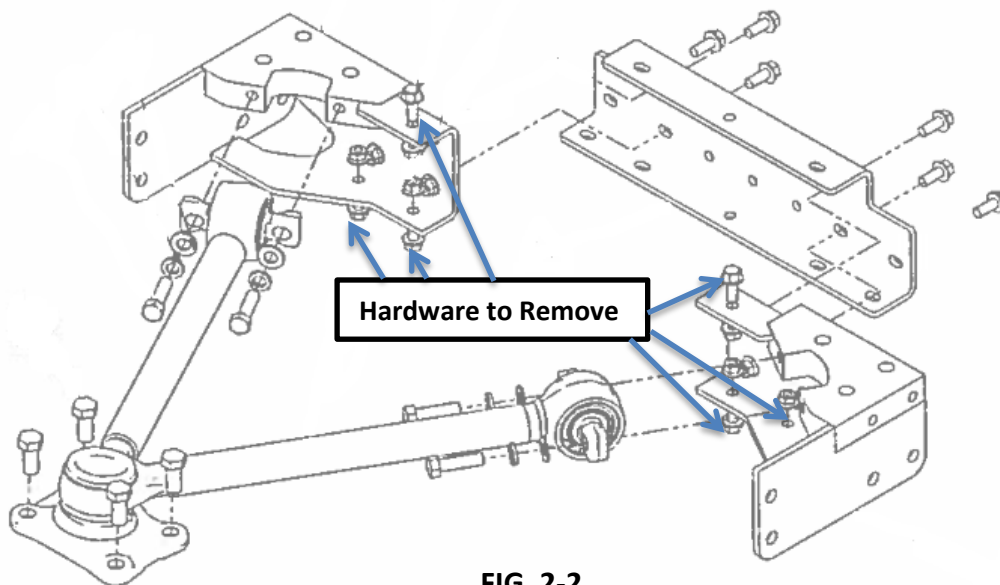

FIG. 2-2
2. Remove 6 existing bolts and nuts and properly dispose of hardware. Refer to FIG. 2-2.